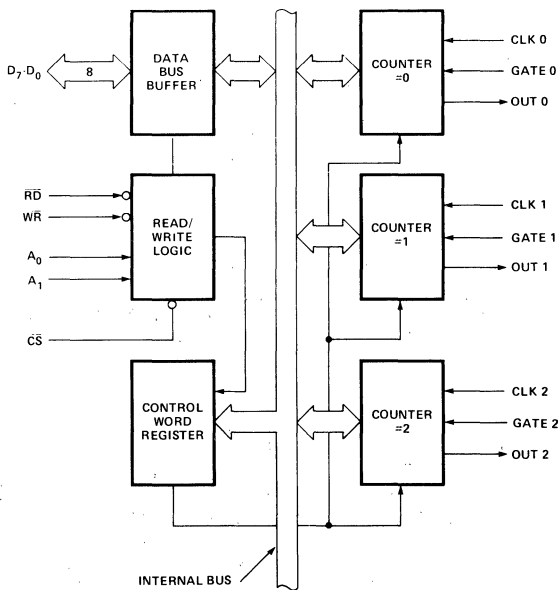

Figure 1. Block Diagram
1. AC timings measured $V_{OH} = 2.0$, $V_{OL} = 0.8$, and with load circuit of Figure 1.
2. Chip Select (CS) and Command/Data (C/D) are considered as Addresses.